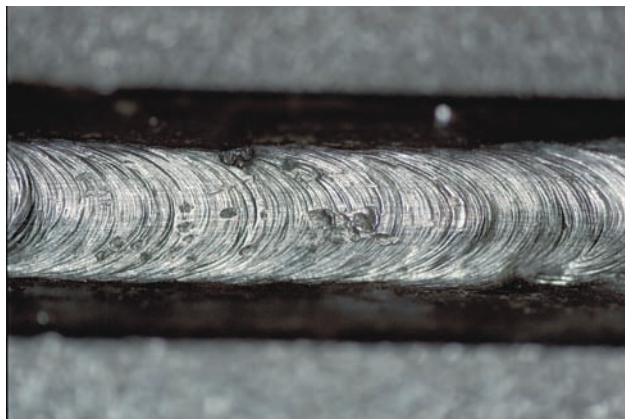

FIGURE 12-44 Weld bead made with GMAW pulsed arc metal transfer mode. Courtesy of Larry Jeffus.
- After completing the weld, check its appearance and make any changes needed to correct the weld, Figure 12-44.